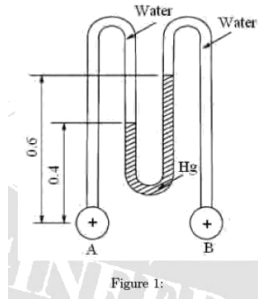

Figure 1:
5. (a) determine the pressure difference between A and B shown in figure 1